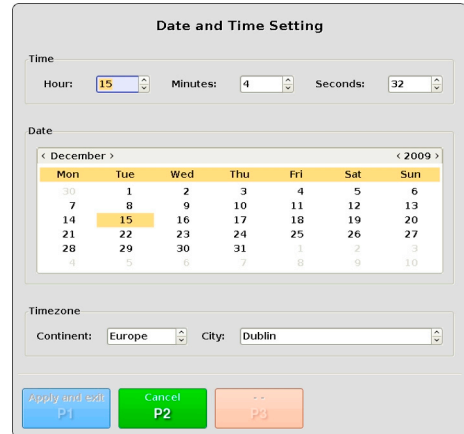

Fig. 33: “Date and Time Settings” dialog
- ▷ In the “Settings” menu navigate to the “Date/Time” menu item and select it by pressing **P1**. The “Date and Time Setting” dialog is displayed (see Fig. 33).